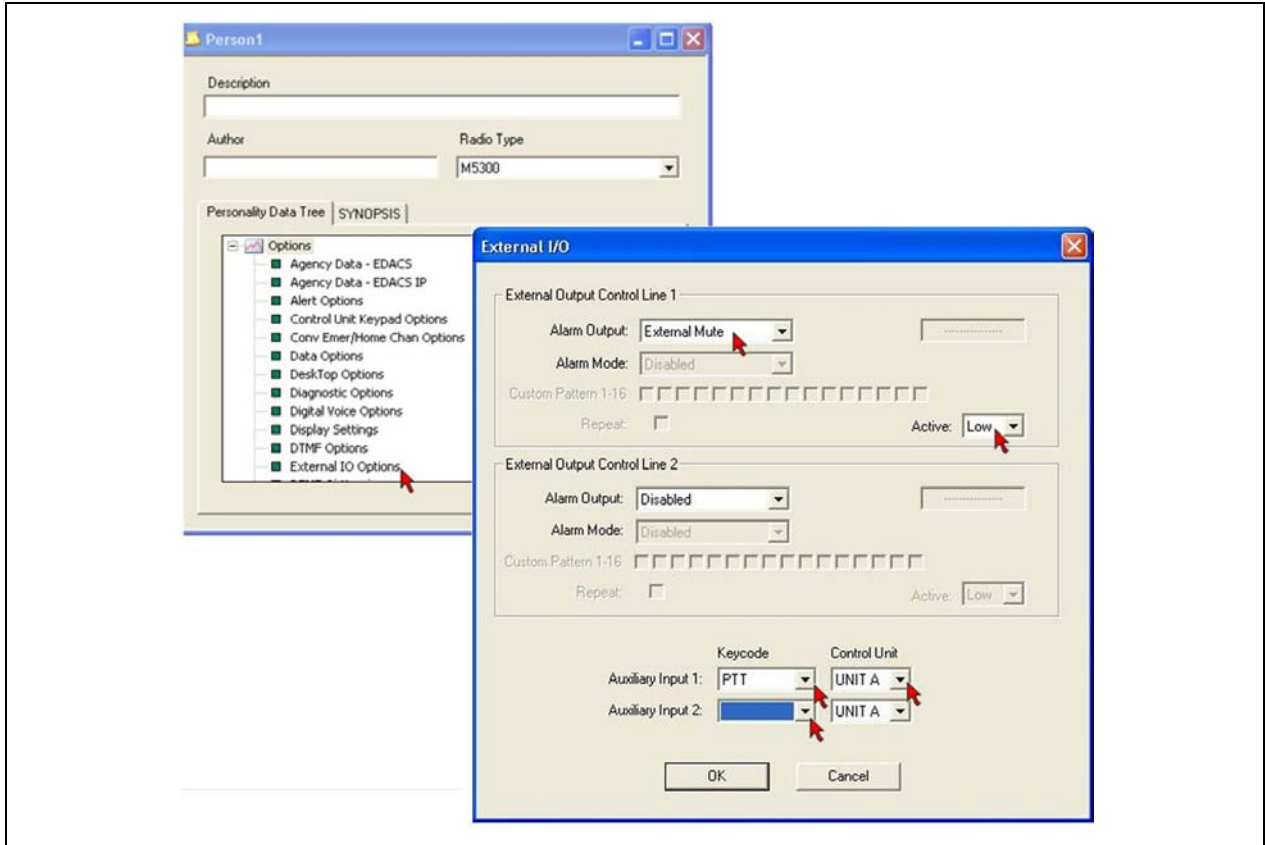

Figure 7-1: Setting Up the Mobile Radio for Control Station Operation using RPM Software
5. Set the following parameters as shown in Figure 7-1: